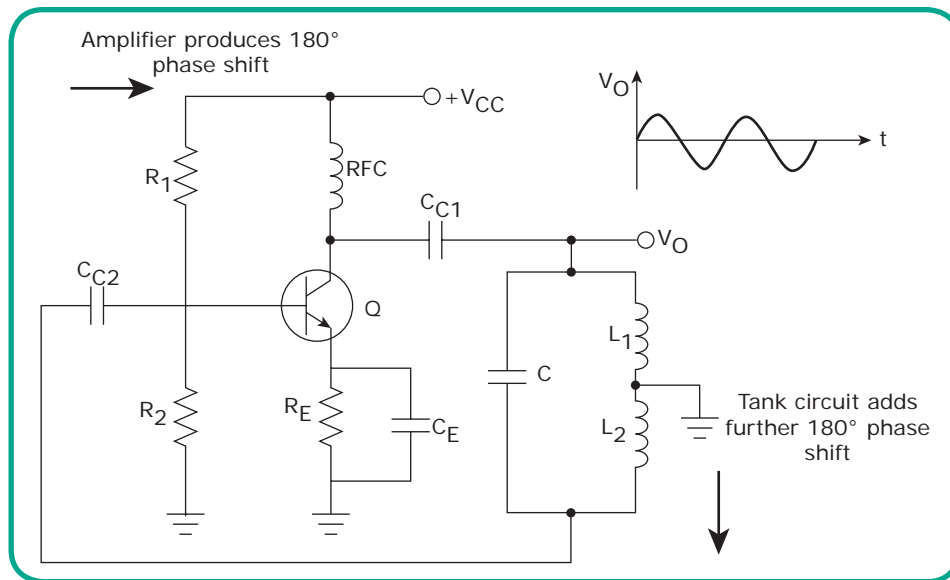

Figure 7.6 Hartley Oscillator
**Construction:** Figure 7.6 shows the Hartley oscillator. The circuit consists of CE configuration, in which Resistor  $R_1$  and  $R_2$  form the voltage divider bias network. Next, the capacitor  $C_{C2}$  and  $C_{C1}$  are input and output decoupling capacitor, while the emitter capacitor  $C_E$  is the bypass capacitor used to bypass the amplified AC signals.